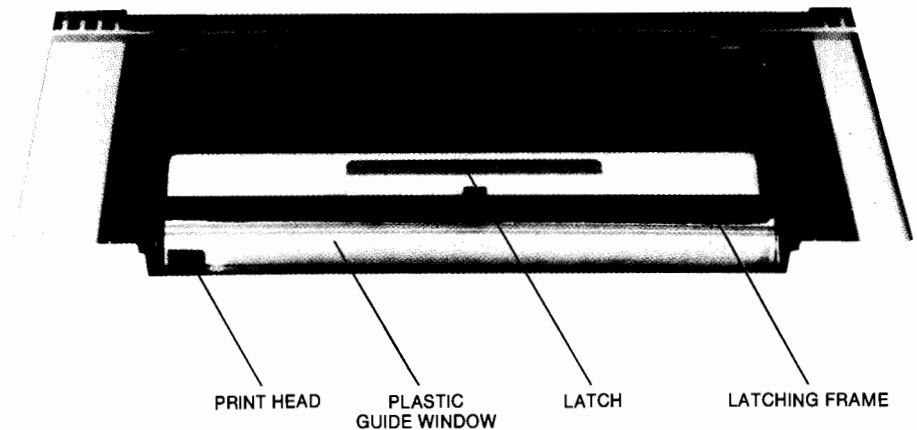

Figure 9-1. Printer Mechanism.
1. Lift the top cover of the printer mechanism (figure 9-1). An illustration of the correct paper position and flow is embossed on the underside of the cover.
The print head (figure 9-1) is relatively fragile and susceptible to damage; be careful not to strike it while loading paper.